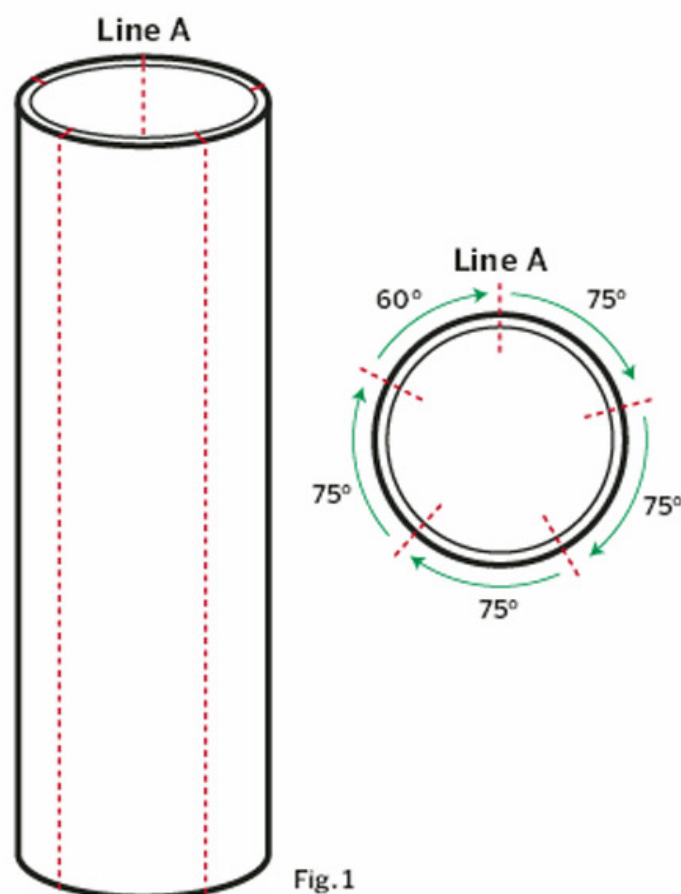

Fig. 1
**1a.** Place the 24" length of PVC pipe and square tubing (or other straight edge) side by side on a flat surface. Push the pipe tight against the tubing and mark the line along the length of the tube. This is Line A (see Fig. 1).
**1b.** Starting from Line A, draw parallel lines at 75-degree intervals along the length of the pipe. You should have a total of five lines on your pipe as shown in left Figure 1. Note that one strip will have an arc width of only 60 degrees. That's OK.